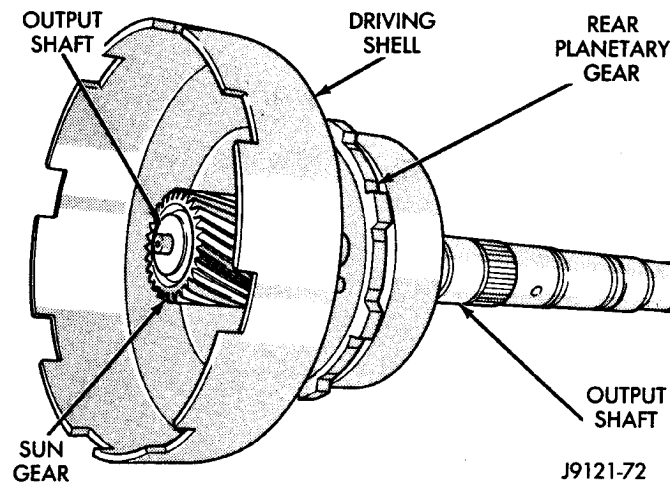

Fig. 186 Installing Sun Gear And Driving Shell
(8) Install sun gear and driving shell on intermediate shaft (Fig. 186). Seat shell against rear planetary gear. Verify that thrust washer on planetary gear was not displaced during installation.